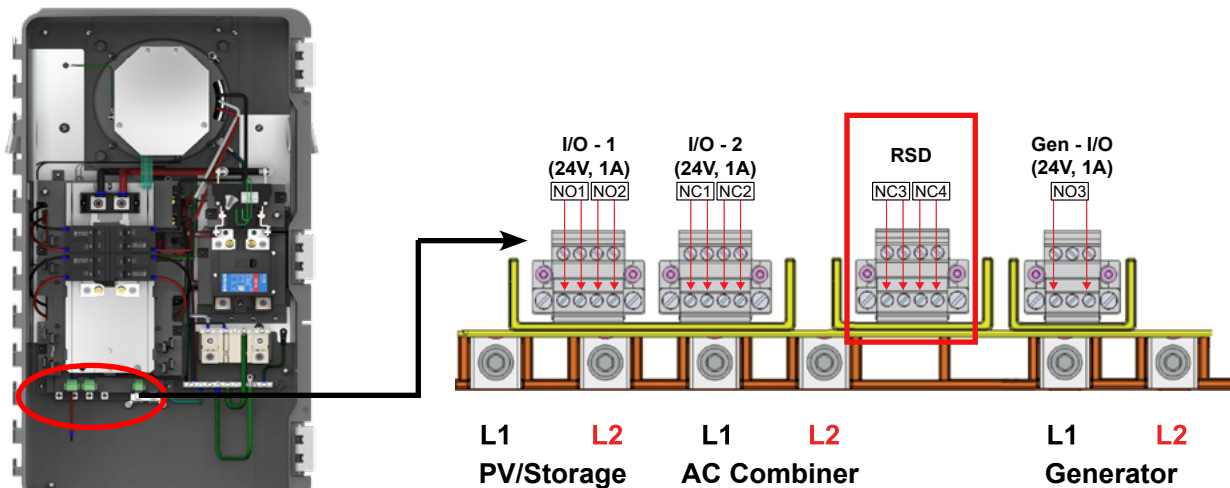

Figure 1: Layout of auxiliary contacts in IQ System Controller, Terminals for connecting RSD are indicated in red
- A) The IQ System Controller 2 comes with multiple auxiliary contacts as indicated in Figure 1.
- B) The contacts NC3 and NC4 are for wiring the RSD (indicated in the red box in Figure 1).